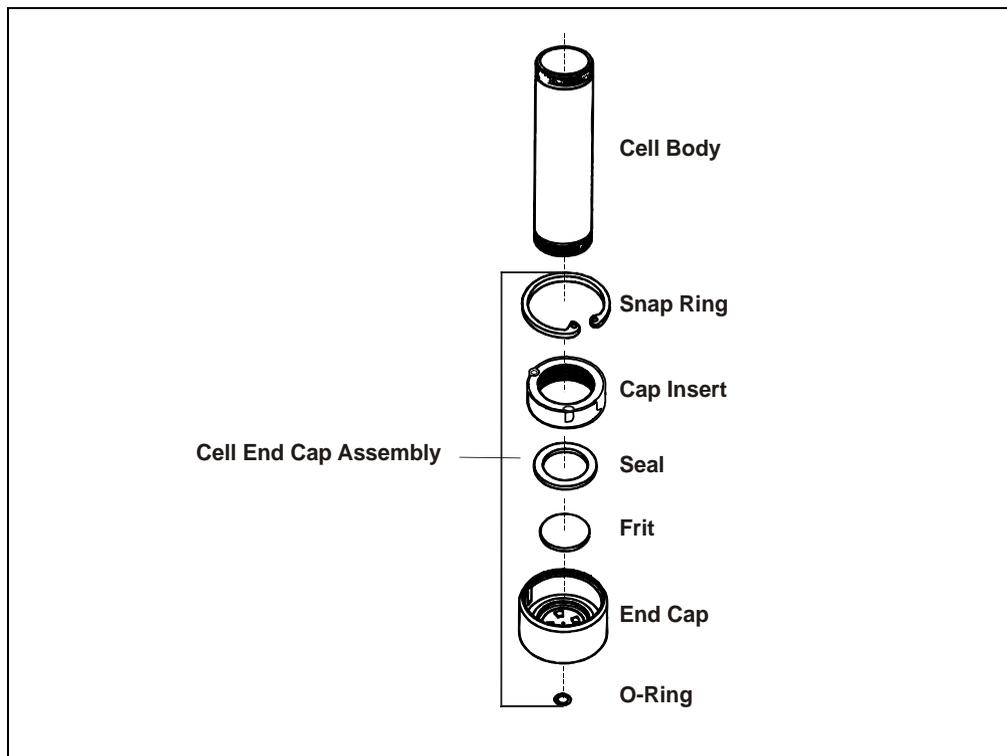

Figure 5-3. Sample Cell Assembly
6. Refer to Figure 5-3 and the following steps to reassemble the sample cell: